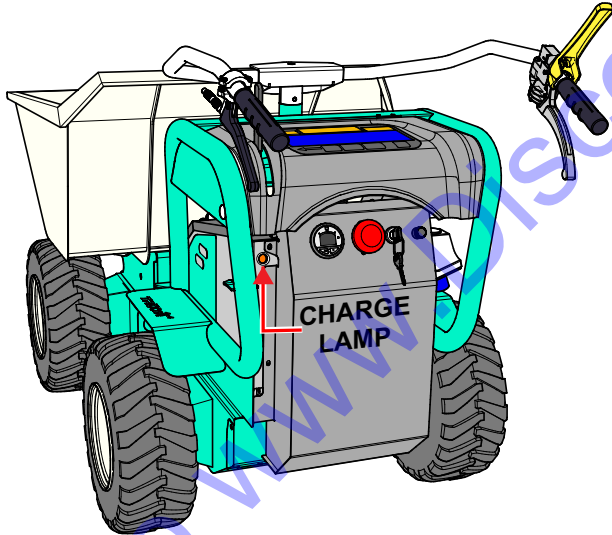

Figure 60. Charging Light
5. Charging of the batteries can be observed by viewing the small window (Figure 60) on the left-hand side of the battery box.